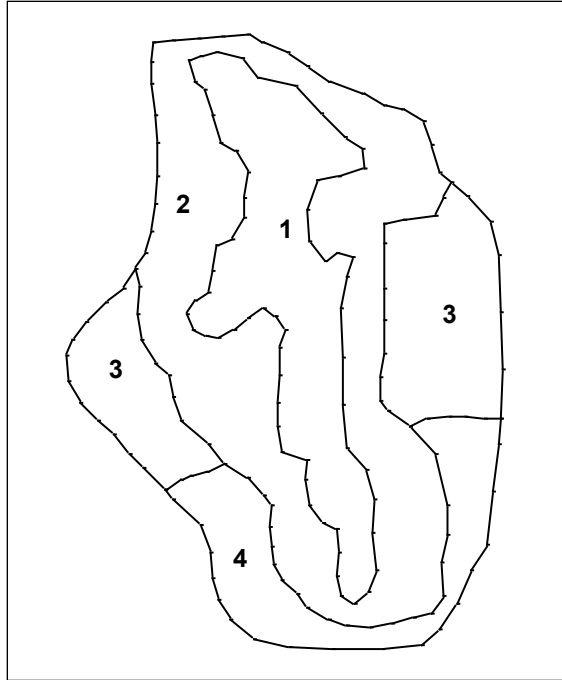

Figure 7: Hydraulic conductivity zones
4. From the dynamic tool bar, using the **Select Polygons**  tool and while holding down the *Shift* key, select the polygons labeled 1 and 2 in Figure 7.